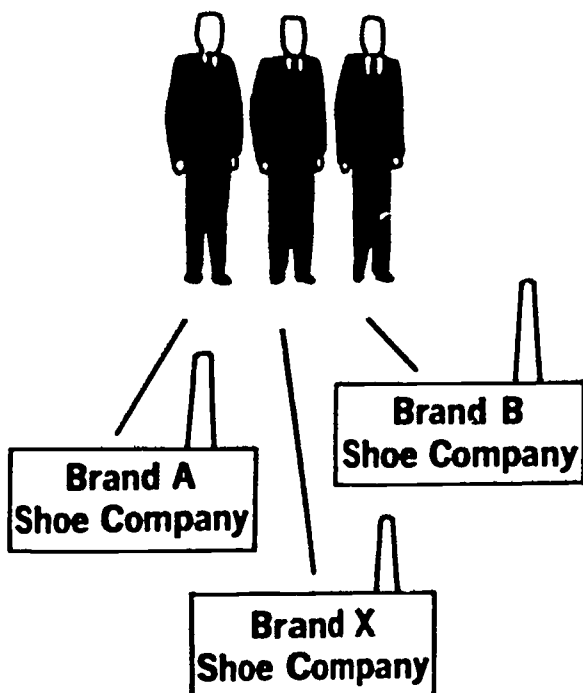

Fig. 7-5. Combining the management of several companies may improve efficiency.
The term *business combination* is often used instead of merger. There are three different types of business combinations: (1) *horizontal combinations*, (2) *vertical combinations*, and (3) *conglomerate combinations*. A horizontal-type business combination unites two or more companies selling the same product to the same types of customers. See Fig. 7-5.